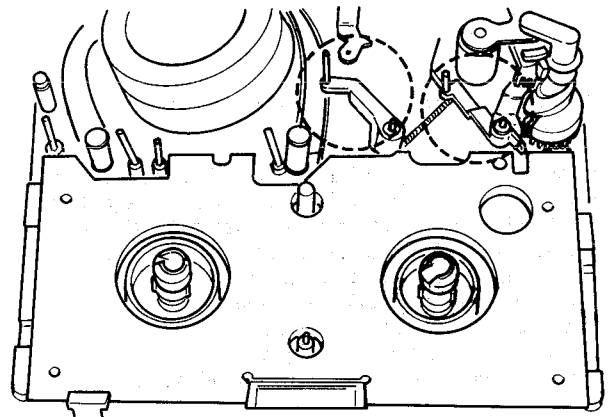

Fig. 31
- Rotate the capstan rotor in the anti-clockwise direction until the mechanics reaches the position shown in Fig. 31.